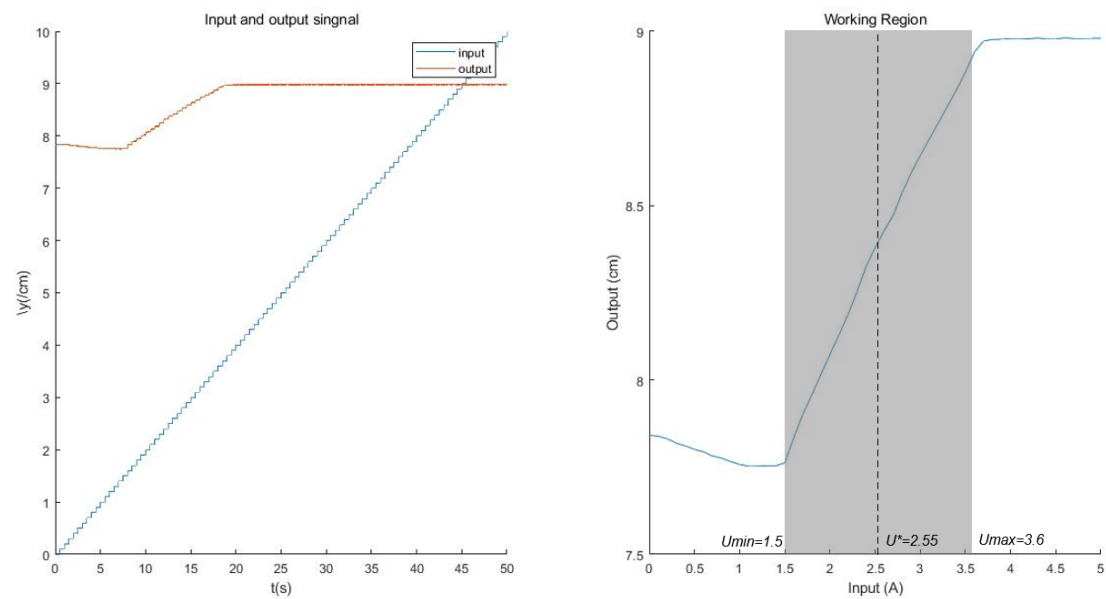

Figure 2: Working region.
From Fig. 2, we can see that when $u \in [1.5A, 3.6A]$, the plot have linearity.
- Plot for illustrating working region is shown in Fig. 2.